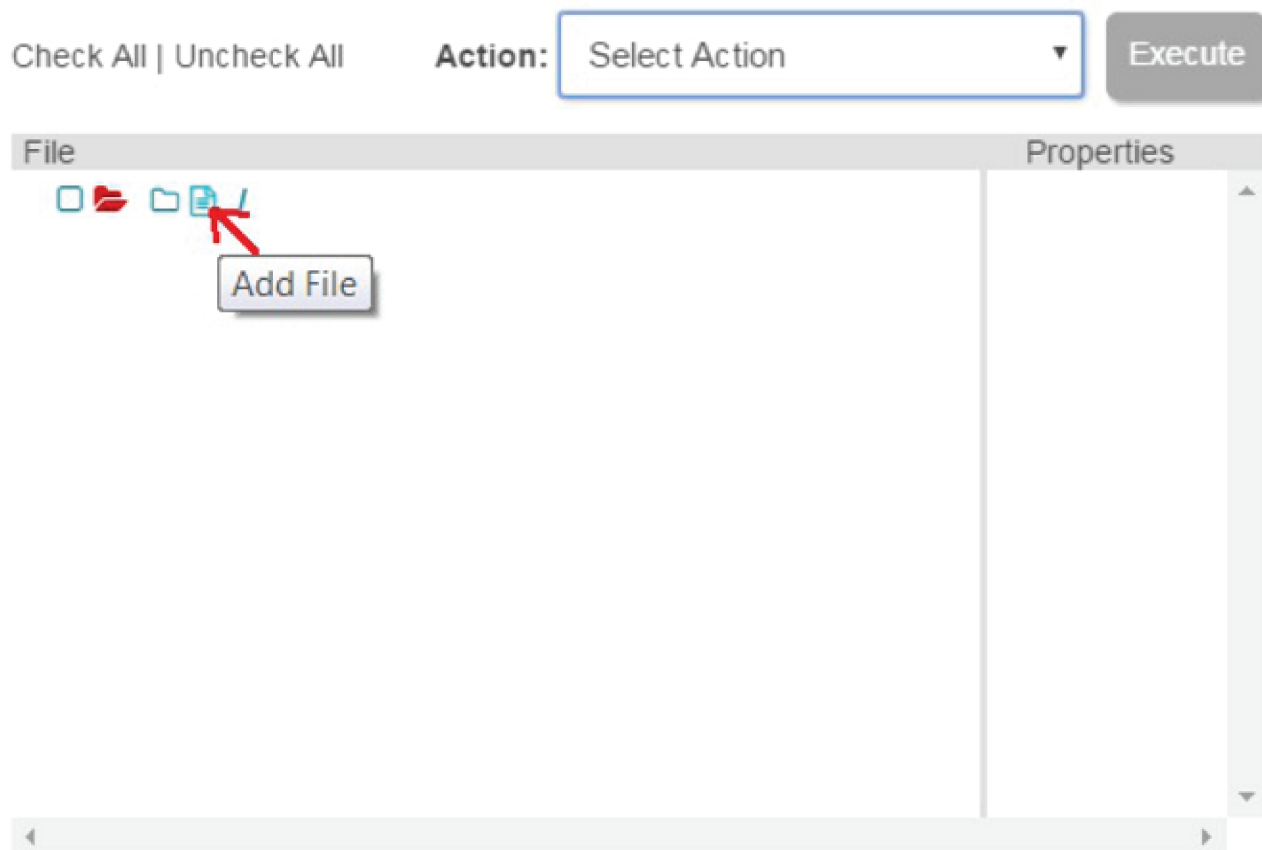

Figure 3-11. Add File
3. Select User Files icon on lower-left side and click the Add File icon, as shown in Figure 3-11.